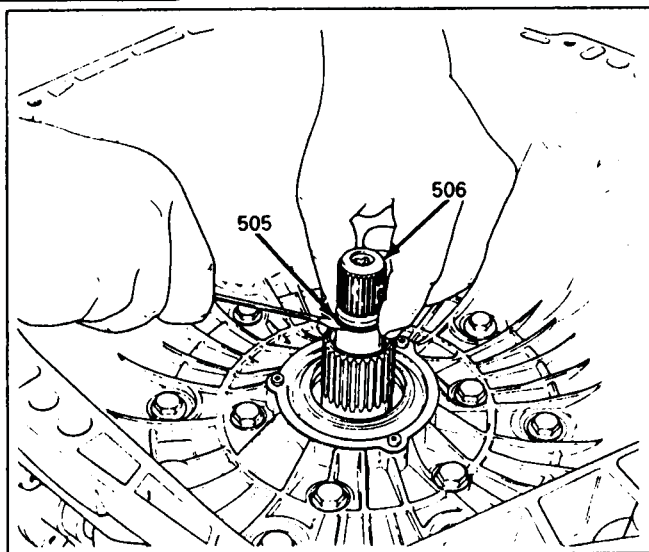

Figure 36
1. Remove the turbine shaft "O" ring seal, as shown in Figure 36.